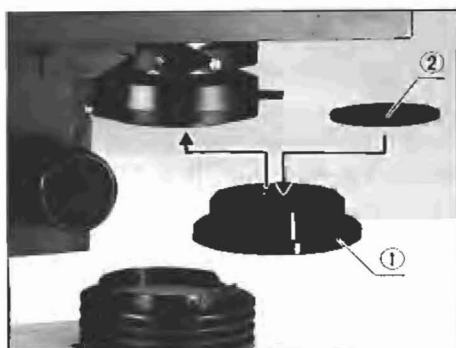

Fig. 9
Slip the blue filter (32.5 mm dia.) (2) into the filter holder (1) (or into the filter mount at the top of the attachment lens). (Fig. 9)
Insert the filter holder (1) into the condenser from below. (Fig. 9)